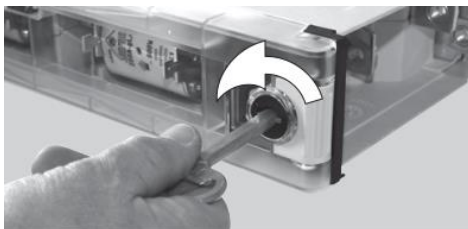

Fig 9 / Fig: 9 [picture source: Jean Müller]
- Open the lock of the device (Fig: 9)